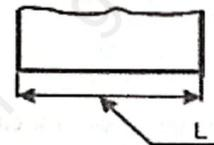

Figure 6
9. Consider the line labelled L in figure 6. What is the name of the line?